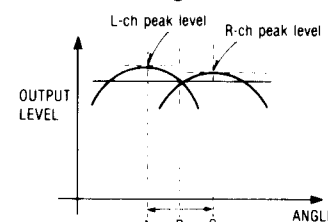

Fig. 4
| 2        | 1 → 2     | Front panel assembly and mechanism unit | <ul style="list-style-type: none"> <li>• 2 screws .....(C)</li> <li>• 2 screws .....(D)</li> <li>• 2 screws .....(F)</li> <li>• Pull out the connectors H M .....(G)</li> <li>• How to remove flat cable .....(H)</li> <li>• As shown in fig. 4, hold the slide knob (A) with the fingers on one side, and releasing it by using a screwdriver on the other side.</li> </ul> | 5, 677334 |